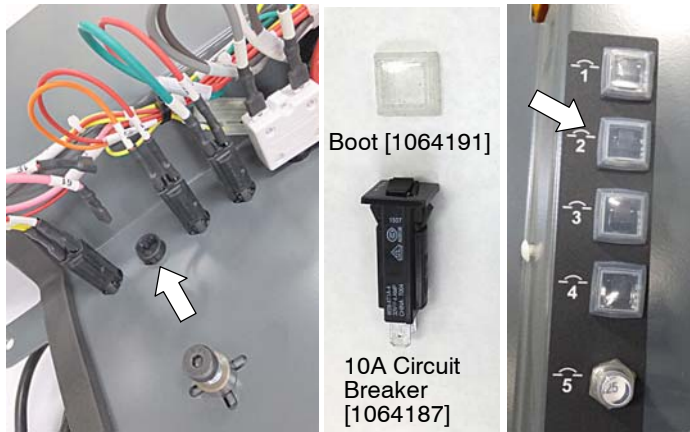

Fig. 18
- Remove circuit breaker plug from the CB-2 position and install the 10A circuit breaker and boot (Figure 18).